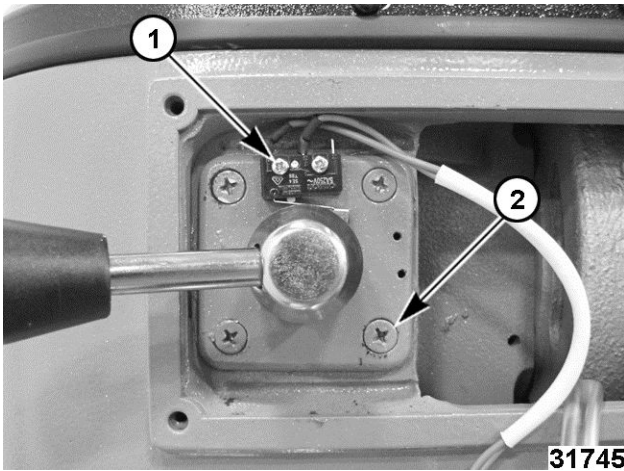

Fig. 11
2. Remove shifter lever switch by removing screws (1, Fig. 11).
3. Remove shifter lever by removing screws (2, Fig. 11).